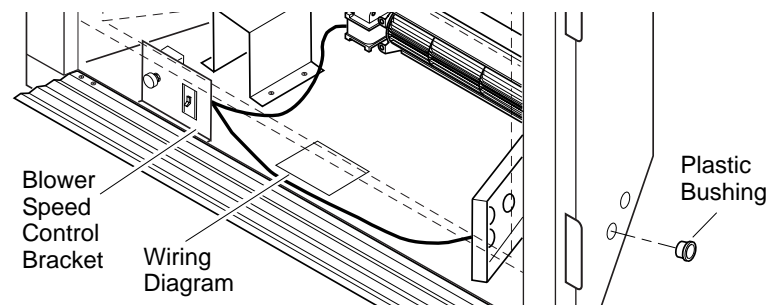

Figure 34 - Installing Plastic Bushing and Wiring Diagram Sticker
- a. **If your fireplace system is installed as a freestanding unit with an accessory mantel**, determine whether the power cord will exit the left side or the right side of the firebox. Install one plastic bushing provided into the 1 1/2" hole in the outer casing through which the power cord will exit. Install the second plastic bushing provided into the floor support bracket if exiting through the right side (see Figure 34). Route power cord through (both) plastic bushing(s) and plug the power cord into a properly grounded 3-prong wall receptacle near the firebox.
10. Peel off the backing paper and stick the supplied wiring diagram decal on the firebox bottom approximately 3" to the right of the blower speed control bracket (see Figure 34).